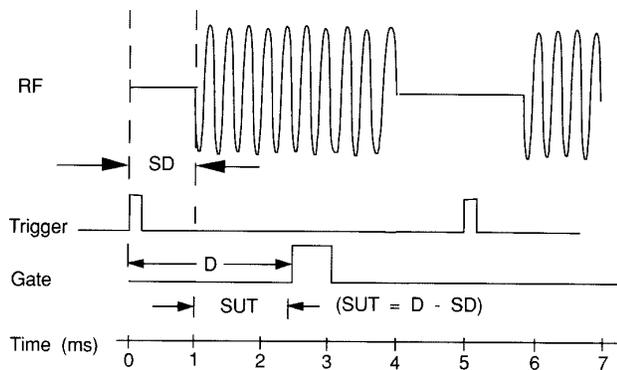

Figure 6-2 Setup time and signal delay for time gating
4. Activate GATE ON, and position the gate over the part of the signal that you want to measure by adjusting GATE CONTROL (triggering), GATE DELAY, and GATE LENGTH. Determine the setup time (SUT) (See Figure 6-2).
Notice that in Figure 6-2: